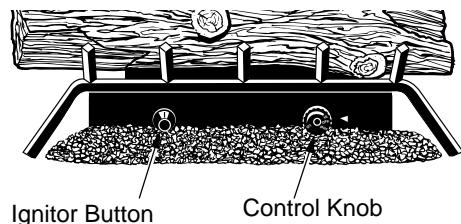

Figure 27 - Control Knob and Ignitor Button Location
5. Turn control knob counterclockwise ↘ to the PILOT position. Press in control knob for five (5) seconds (see Figure 27).